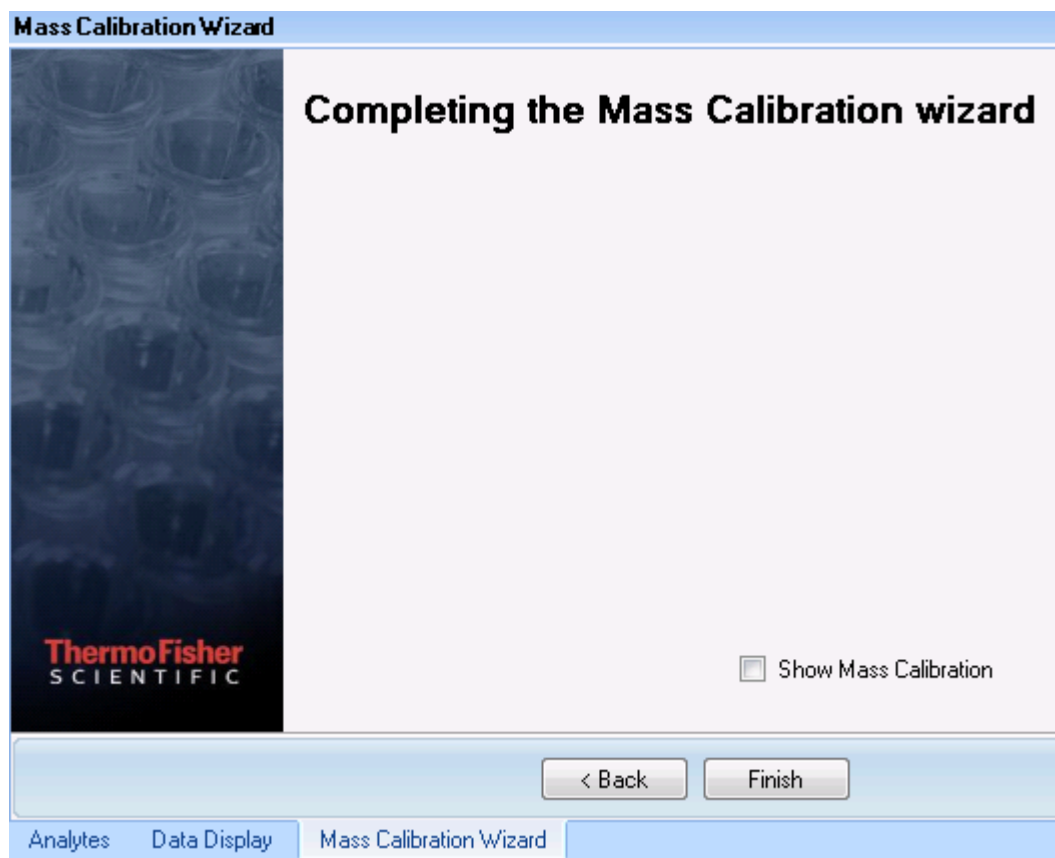

Figure 4-99. Mass Calibration successful in wizard
16. Click **Finish** to finish the Mass Calibration and store the acquired parameters, see Figure 4-99.